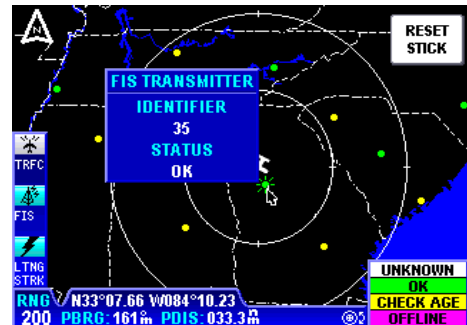

Figure 2-47
3. To view a specific FIS Network station move the joystick in the desired direction and place the pointer on the desired station icon (see Figure 2-47). A box will pop up containing the **FIS TRANSMITTER IDENTIFIER** and **STATUS**.